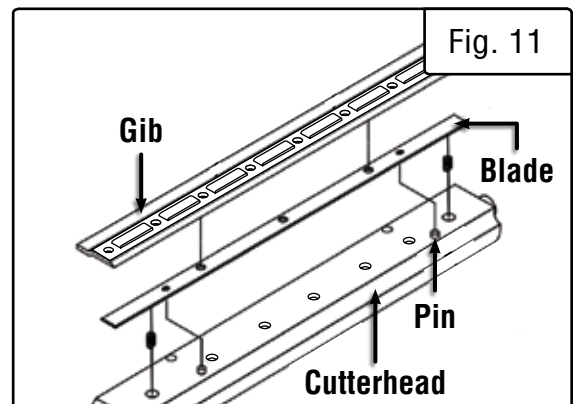

Fig. 11
6. The blade is located in position by two pins. Gently lift the old blade off the cutterhead and slide it out from under the gib. Do not make contact with the blade with your bare fingers (Fig. 11).